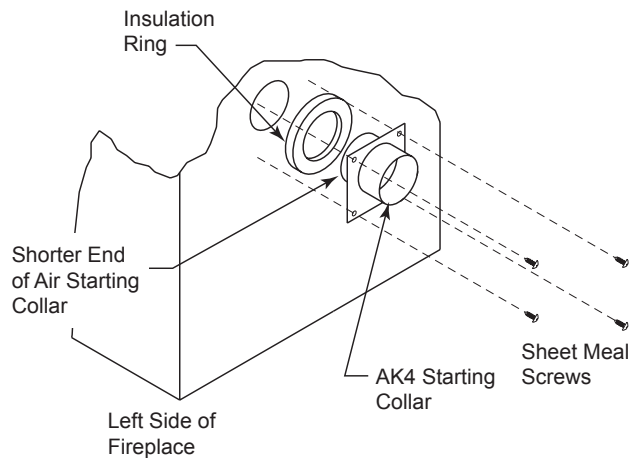

Figure 16 -
3. Place the starting collar (4") into the hole on the side of fireplace. Fasten it in place with the four sheet metal screws provided. *Figures 16 and 17*